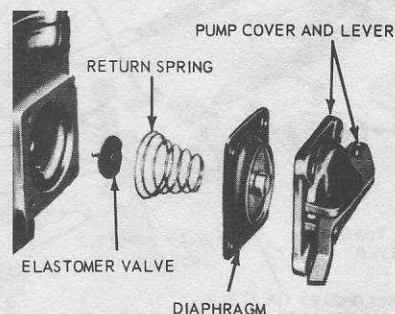

Fig. 3.51 Removing the accelerating pump assembly (2100D carburetor) (Sec. 21)
- 15 Undo the attaching screws and remove the accelerating pump cover, diaphragm assembly and spring (Fig. 3.51). If it is necessary to remove the elastomer valve, grasp it firmly and pull it out. If the valve is removed it must be discarded and a new valve fitted.